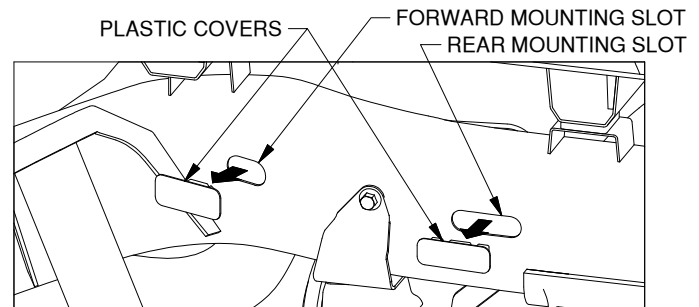
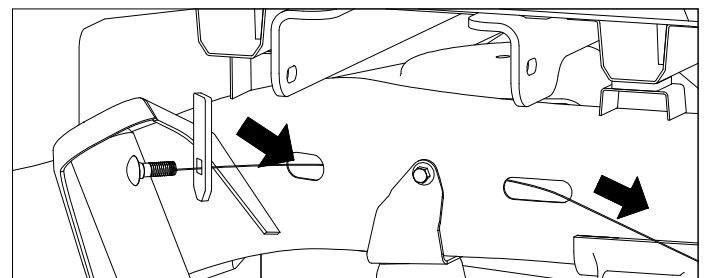
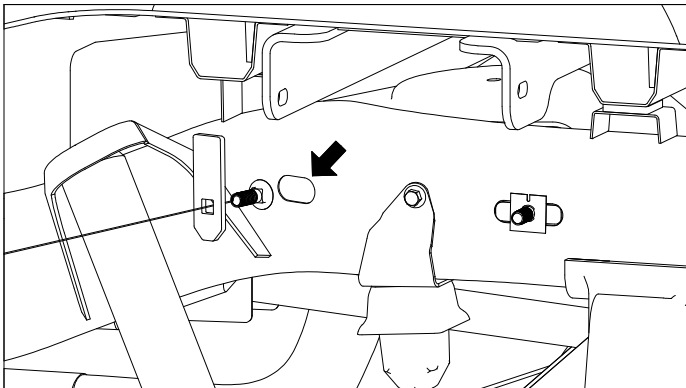
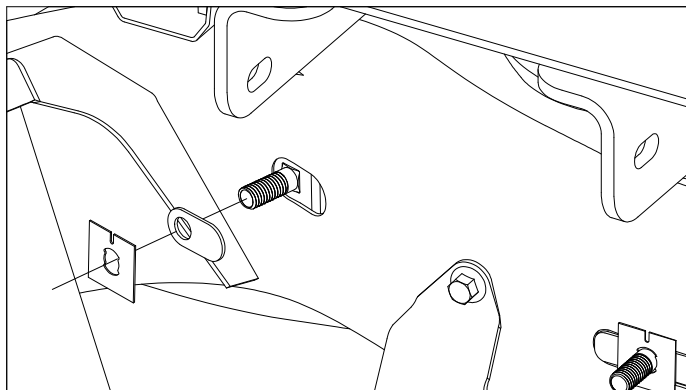

Figure A9: View looking into driver side wheel well.
Figure A10: View looking into driver side wheel well.
Figure A12: View looking into driver side wheel well.
Figure A13: View looking into driver side wheel well.
13. **Prepare to install carriage bolts.** Locate the plastic slot covers inside each rear wheel well, as shown in Figure A9. Remove four covers by prying them out of the frame. Discard the covers.
14. **Fish rear carriage bolt.** Locate the forward and rear mounting slots shown in Figure A9. Thread a 1/2" x 1-1/2" carriage bolt and locking strap onto a fish wire. Pass the fish wire from the forward mounting slot through the frame and out of the rear mounting slot, as shown in Figure A10.
16. Install forward carriage bolt. Locate the forward mounting slot shown in Figure A9. Thread a carriage bolt and locking strap onto a fish wire. Insert the carriage bolt and locking strap through the mounting hole until both are completely inside the frame and only the carriage bolt is passing through the hole, see Figure A12. Install the oval frame spacer onto the bolt and place it into the slot in the frame, as shown in Figure A13. Thread a retainer onto bolt until it is snug. Repeat Steps 14-15 on other side of truck.